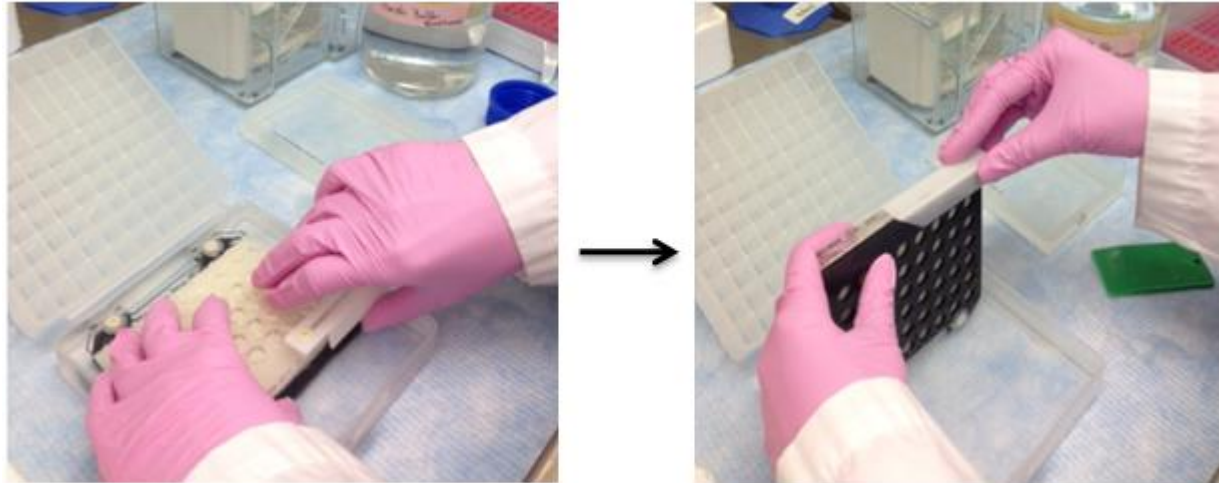

Figure 8a
5.4.8. Close the transfer holder by placing the white lever over the two plates (1) and slide the lever (2) to lock the plates together (See Figure 8a).